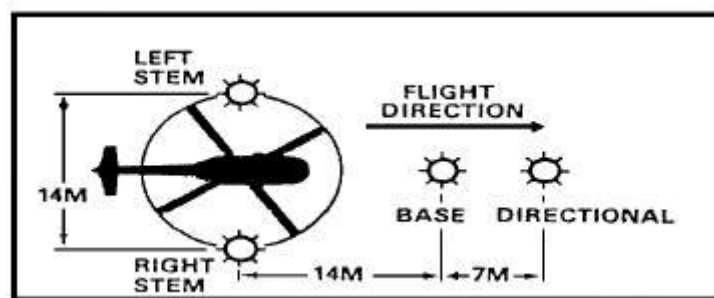

Figure 2-2. Inverted Y
- •Lighting. In a forward area, usually you light landing zones only when US or friendly forces have air superiority. If night lighting is required, use the beanbag light set. The inverted Y is the recommended system for approach cues. Use at least two lights to mark the touchdown point. All lights should be hooded or turned upside down for security until the last practical moment when helicopters are inbound. Figure 2-2 shows the layout of the inverted Y.